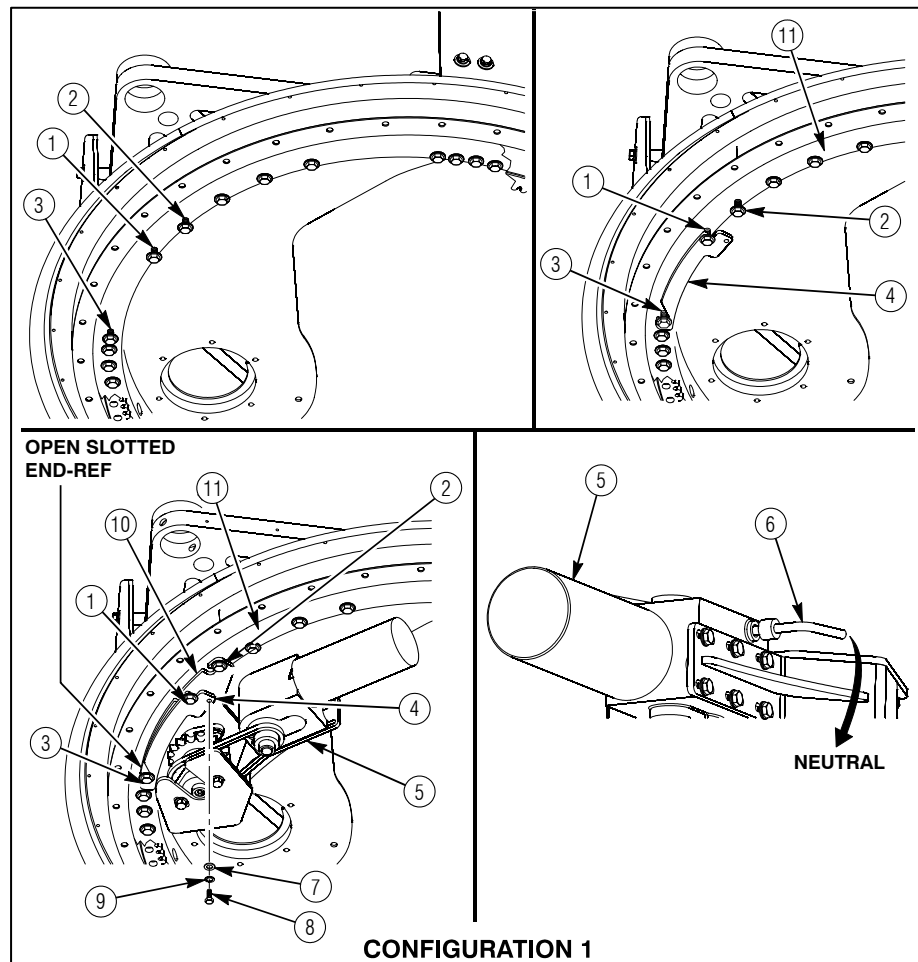

Figure 32
2. Loosen capscrew (2) as shown in figure 32.
3. Loosen capscrews (1 and 3) as required. Install 6432501-01M1 drive mount lock (4) onto two pintle weapon mount capscrews (1 and 3) as shown in figure 32. Do not tighten capscrews (1 and 3) at this time.
4. If necessary, move motor engagement control (6) to NEUTRAL position by pushing in and rotating down. Refer to figure 32.
5. Start 6433255-01M1 motor and drive assembly (5) installation by sliding open slotted end of mounting bracket (10) onto capscrew (3), between drive mount lock (4) and turret bearing (11). Refer to figure 32 (pg.28).
6. Complete installation of motor and drive assembly (5) by rotating unit to engage two capscrews (1 and 2) in locking slots of mounting bracket (10). Move motor and drive assembly (5) counterclockwise to lock in place. Refer to figure 32 (pg.28).
7. Align hole in drive mount lock (4) with threaded hole in mounting bracket (10) and temporarily install 4397000-006 capscrew (8), as shown in figure 32 (pg.28). Do not tighten capscrew (8) at this time.
8. Tighten two capscrews (2 and 3) to 37 lb-ft (50 N·m). Refer to figure 32 (pg.28).
9. Remove capscrew (8). Refer to figure 32 (pg.28).
10. Tighten capscrew (1) to 37 lb-ft (50 N·m). Refer to figure 32 (pg.28).
11. Install capscrew (8), 4397004-006 lockwasher (9), and 4397005-010 washer (7) as shown in figure 32 (pg.28). Tighten capscrew (8) to 10 lb-ft (14 N·m).